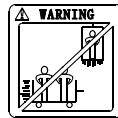

figure 6
13. Never use winch to carry people. Never lift heavy stuffs to pass over people's head (See figure 6).